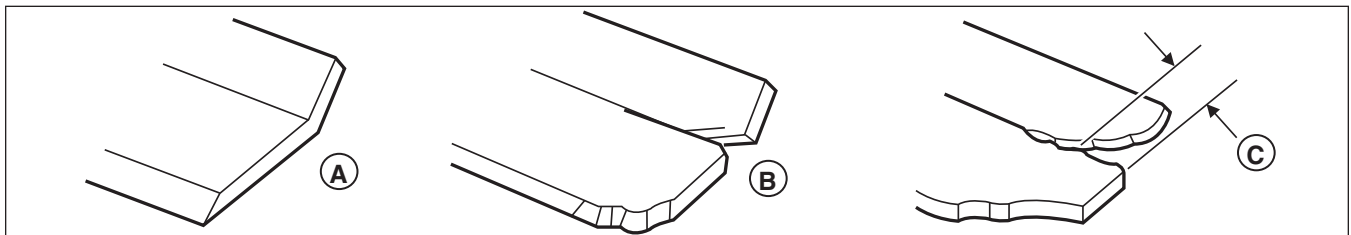

Figure 20. inspecting the Mower Blade Air Lifts
- B.) The air lifts are excessively eroded (B & C, Figure 20) and the notch (C) is .25" (6,35 mm) deep or greater.